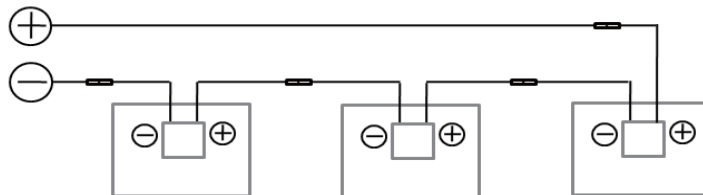

Figure 9-1 Series connection
- The direct current (DC) generated by the photovoltaic system can be converted into alternating current (AC) and connected to the public grid. Different regions may have different policies, laws and regulations to stipulate the installation requirements and grid connection requirements of photovoltaic systems. Therefore, please comply with local policies, laws and regulations during the design, installation and grid connection of photovoltaic systems.
- In order to ensure the normal operation of the system, please make sure that the polarity of the cable is correct when connecting modules or connecting loads. If the modules are not connected correctly, the bypass diode and junction box may be damaged. PV modules can be connected in series (Figure 9-1), parallel (Figure 9-2), and series-parallel (Figure 9-3). The number of modules in series and parallel should be designed reasonably according to the system configuration. At the same time, please note that if the number in parallel is ≥ 2 strings, there must be an overcurrent protection device on each string of modules.